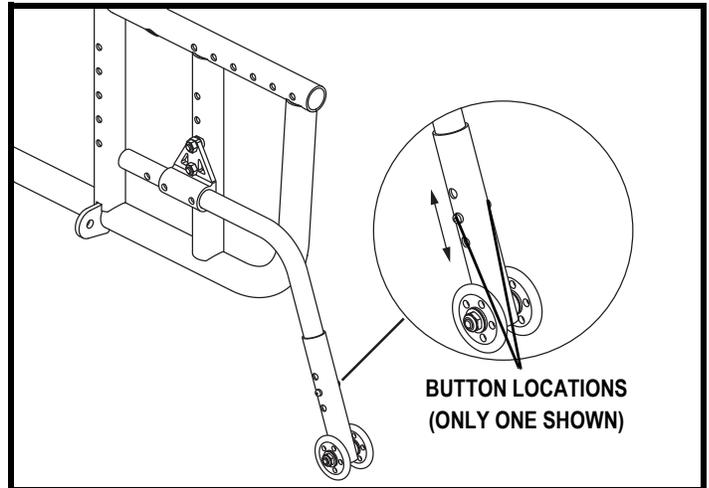

Figure 18. Anti-tip Wheel Adjustment
1. Push the button on both sides of the anti-tip wheel at the same time and move the anti-tip wheel up or down to unlock it. **See figure 18.**